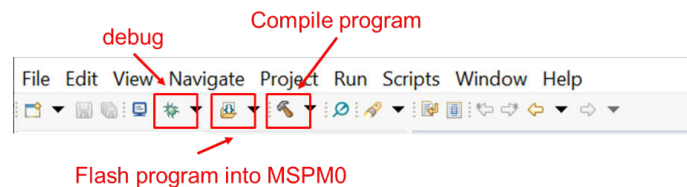
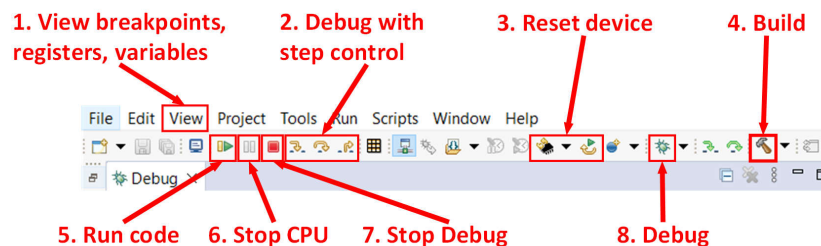

Figure 2-19. Commonly Used Function
Figure 2-20. Commonly Used Debug Functions
- Figure 2-19 and Figure 2-20 show a quick introduction to CCS functions.